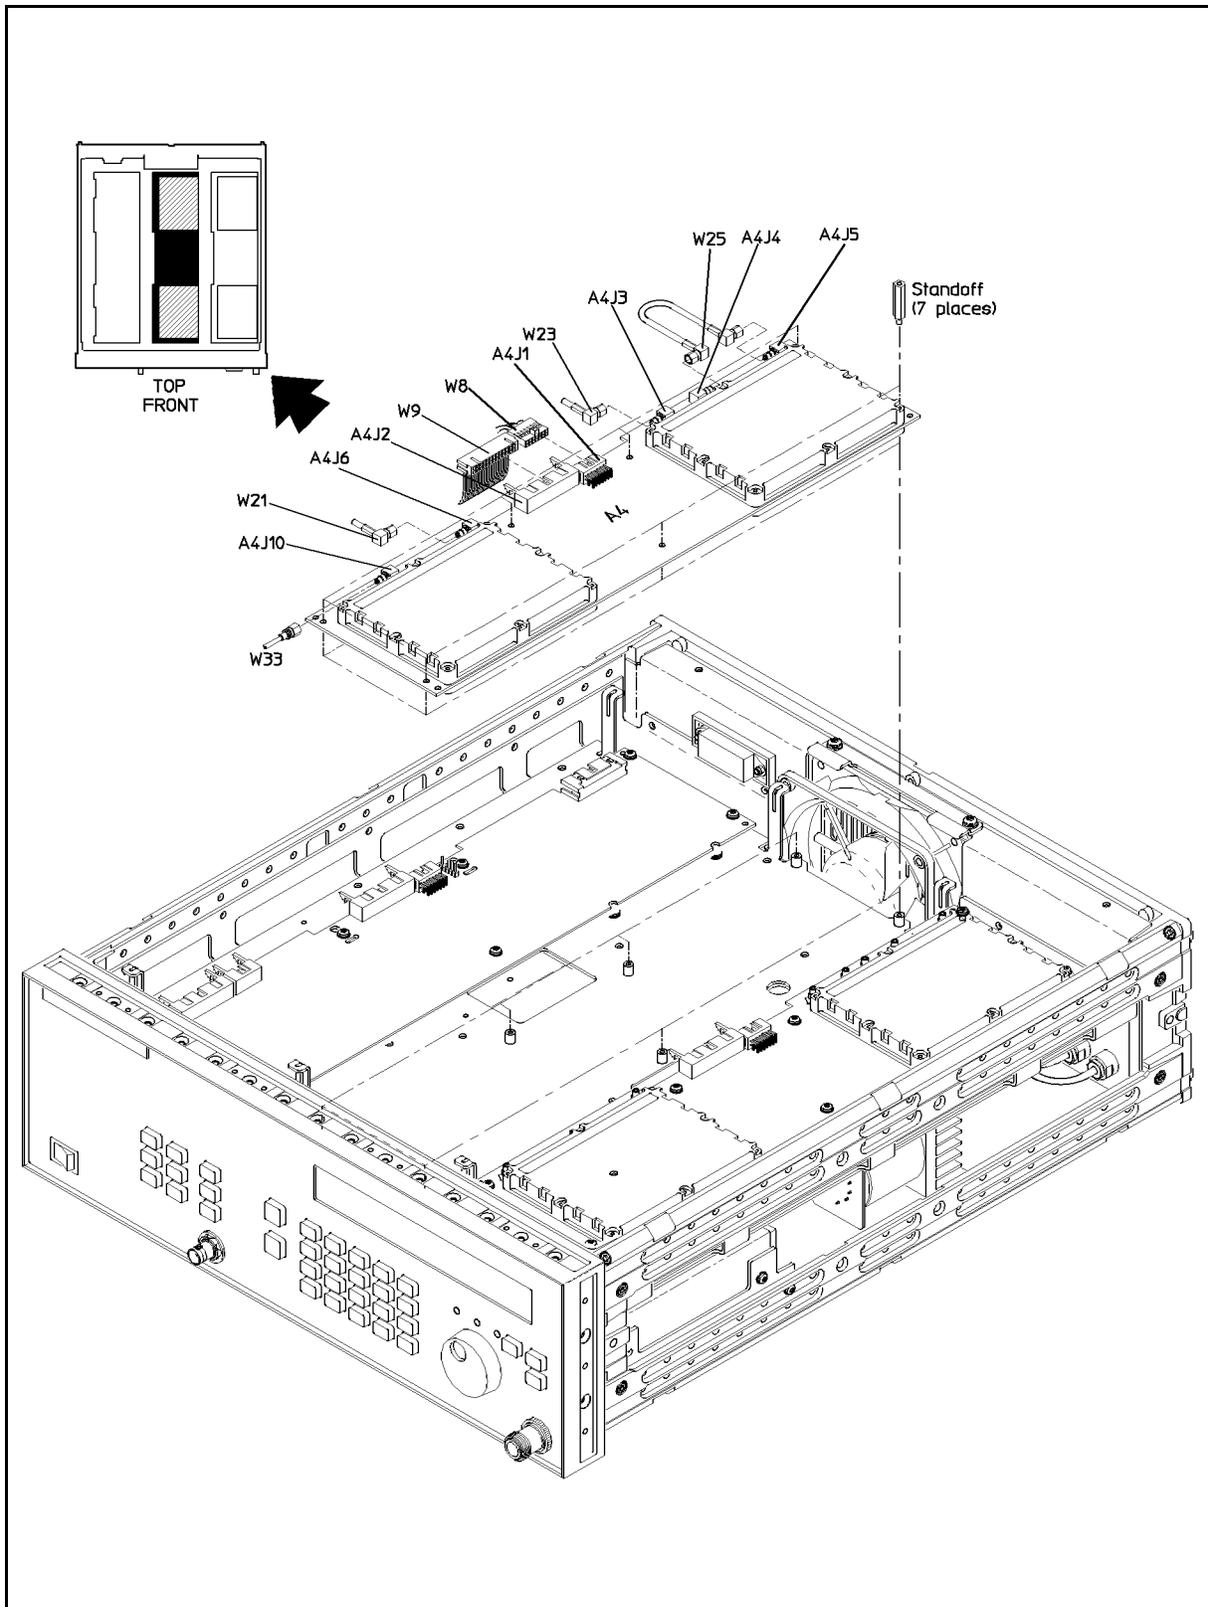

Figure 5-13. Divider and Modulation Board Assembly Removal
1. In the introduction to this chapter, refer to “Multi-wire Cables” and Figure 5-13. Then, disconnect the following cables:
2. Refer to “Flexible Coaxial Cables” and Figure 5-13. Then, disconnect the following cables using a 15/64 in open end wrench:
3. Refer to “Semi-Rigid Coaxial Cables” and Figure 5-13. Then, disconnect the following cable using a 5/16 in open end wrench: